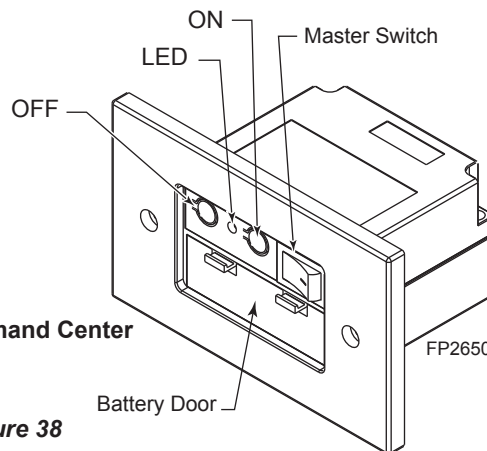

Figure 38
4. During the 10 seconds, press the OFF button on the transmitter to learn. Another two beeps will be given to confirm a successful learning. **Figure 38**